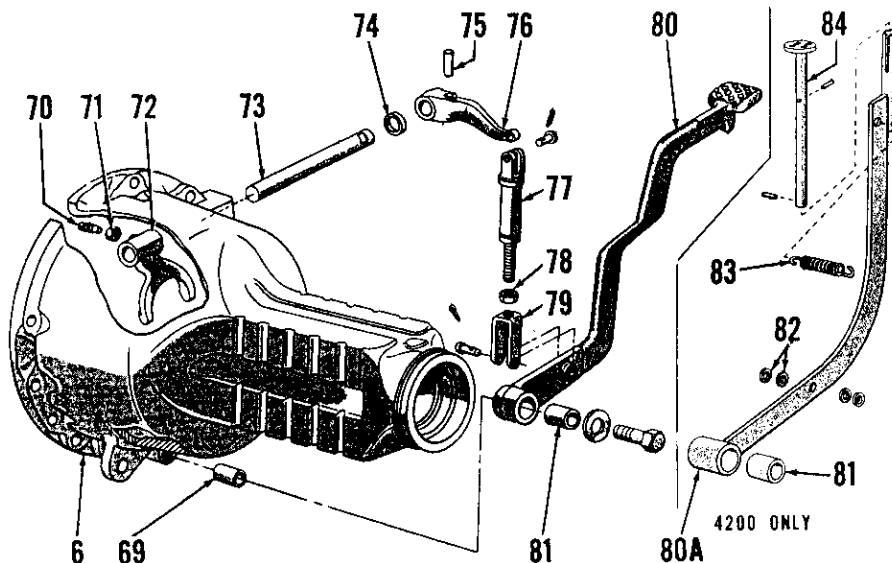

Fig. 331—Exploded view of model 4000 differential lock linkage. Model 4200 has different pedal (80A) than other models.
Disconnect adjustable (spring loaded) link (77—Fig. 331) from operating lever (76) and loosen locknut (78). Jack up right rear wheel, push down on operating lever (76) and turn rear wheel until dog clutch is aligned and differential lock is fully engaged. With foot pedal (80) resting on plat-
Unbolt and remove ring gear thrust block (61) from left axle housing. On model 4000 with differential lock, refer to Fig. 331 and remove the locknut (71) and set screw (70) retaining the actuating fork (72) and remove shaft (73)